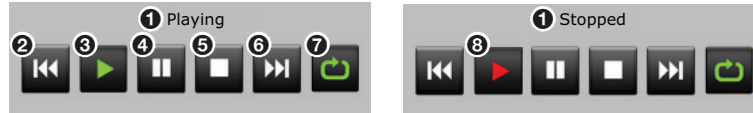

Figure 14. Player Control Buttons
Status indicator and Player Controls — Text above the controls (figure 14, ❶) indicates the current decode state (stopped, paused, or playing).